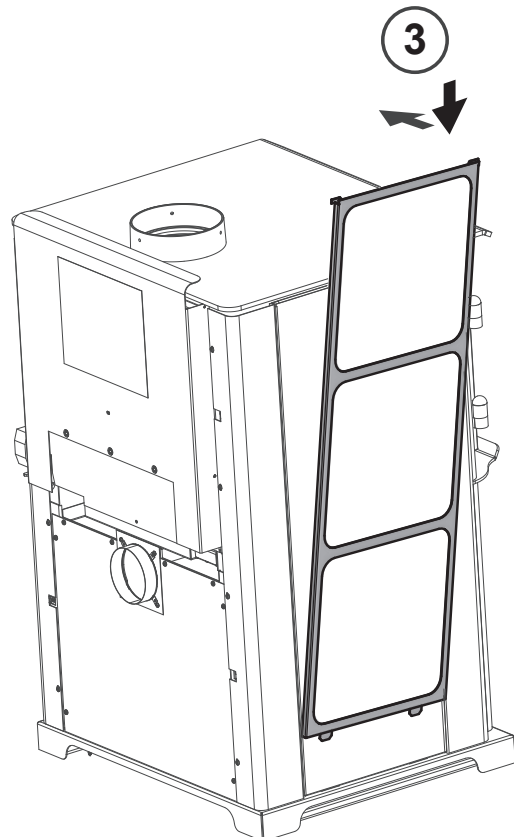

Figure 20.4
3. Reattach tile frame **Figure 20.4.**